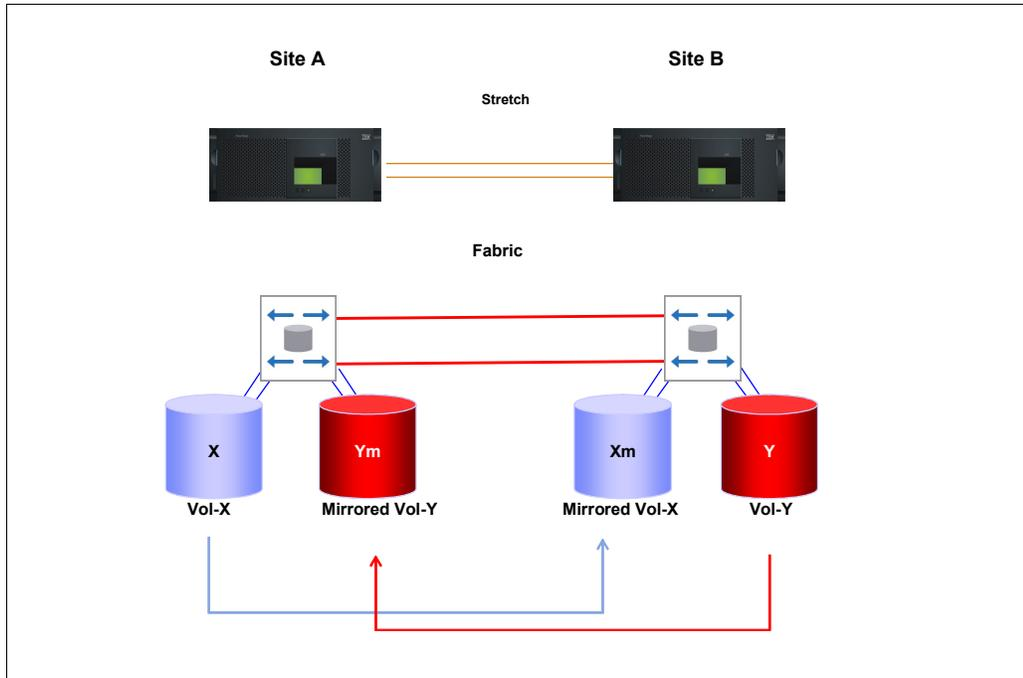

Figure 3-2 MetroCluster disaster recovery
- ▶ If site A goes down, MetroCluster allows you to rapidly resume operations at a remote site minutes after a disaster, as illustrated in Figure 3-2.